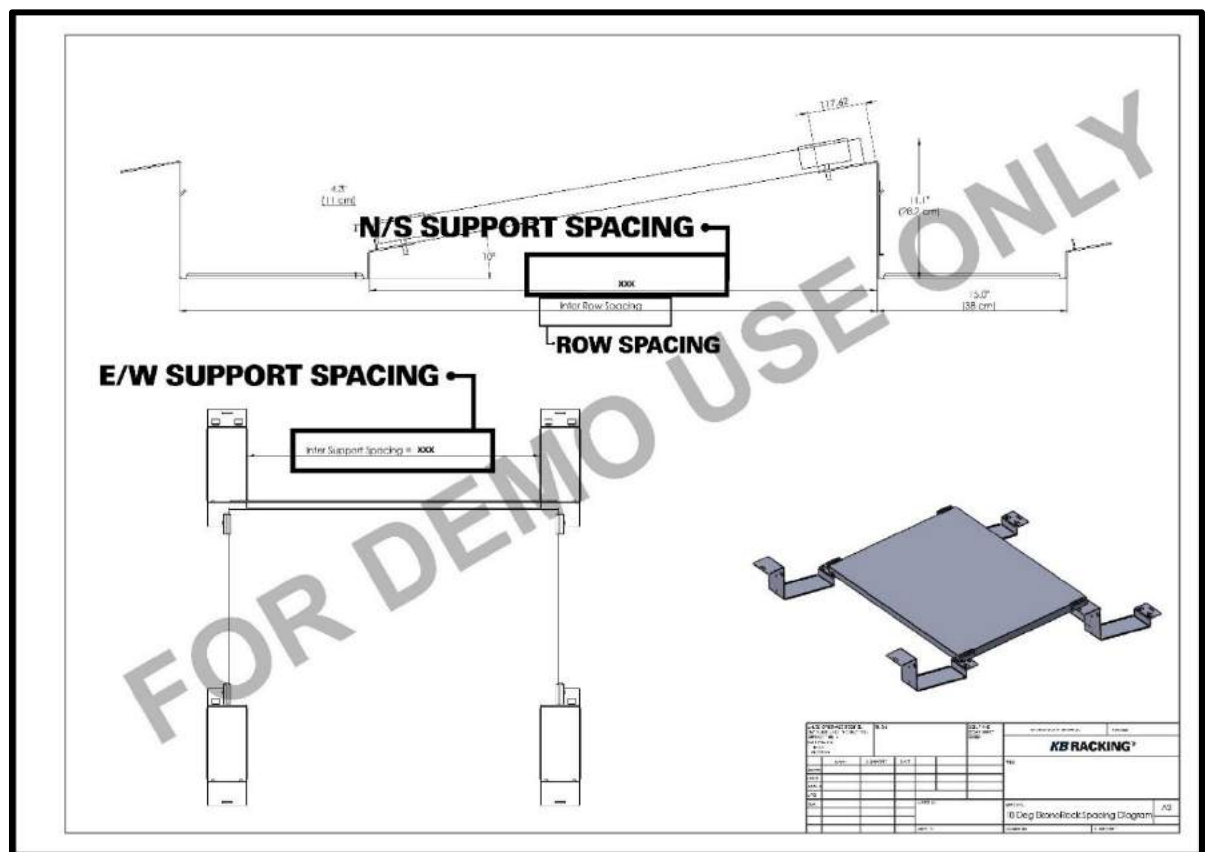

Figure 2 - Sample Spacing Diagram
- 2 Use your project specific *Spacing Diagram* to obtain the distance between two module supports in the N/S and E/W directions. Complete the first row of the array (see example, Figure 2).